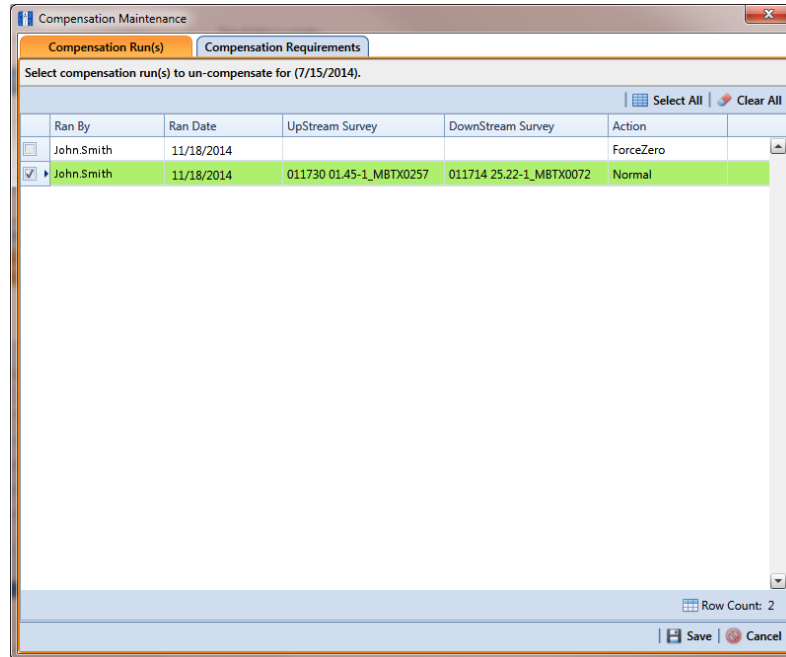

Figure 14-25. Maintenance
- 4 Click  **Maintenance** to open the *Maintenance* window (Figure 14-25, page 641).